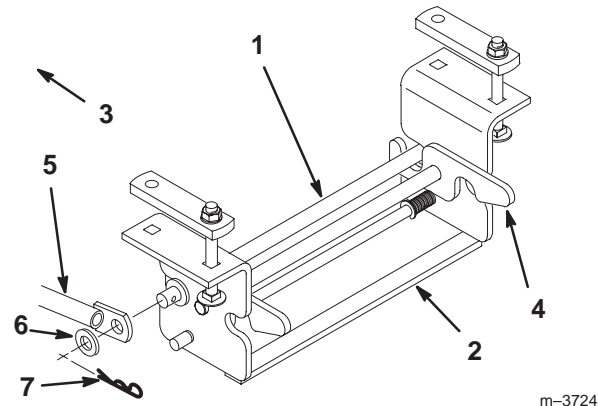

Figure 25
7. Remove the other ends of the two support braces from the rear Attach-A-Matic™ mount by removing the hairpin cotters and washers (Fig. 25).
8. Release the latches on the rear Attach-A-Matic™ and remove the support rod link (Fig. 25).